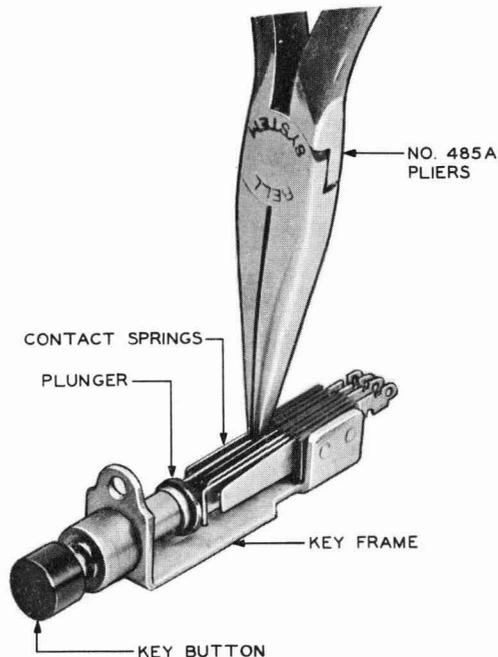

Fig. 8—Method of Adjusting Contact Springs
(1) In making these adjustments, consult the associated circuit drawing and requirement table and give consideration to the maintenance of any requirement for contact sequence which may be specified thereon. In adjusting springs, take care not to kink them. Do not straighten kinked springs unless the kink interferes with the proper adjustment of the key. Removing kinks tends to weaken the spring and shorten its life.
(3) **Contact Separation:** If the separation between contacts on these keys is not satisfactory, adjust as required using the No. 485A pliers. Make adjustments close to the point where the spring leaves the clamping plate and insulator as indicated in Fig. 8.
(2) If the key fails to meet the minimum plunger operate pressure requirement, it is an indication that the plunger spring tension is insufficient. In this case, adjust the spring toward the center of the key using the No. 485A pliers as indicated in Fig. 8. Check that 2.04(c) is met.